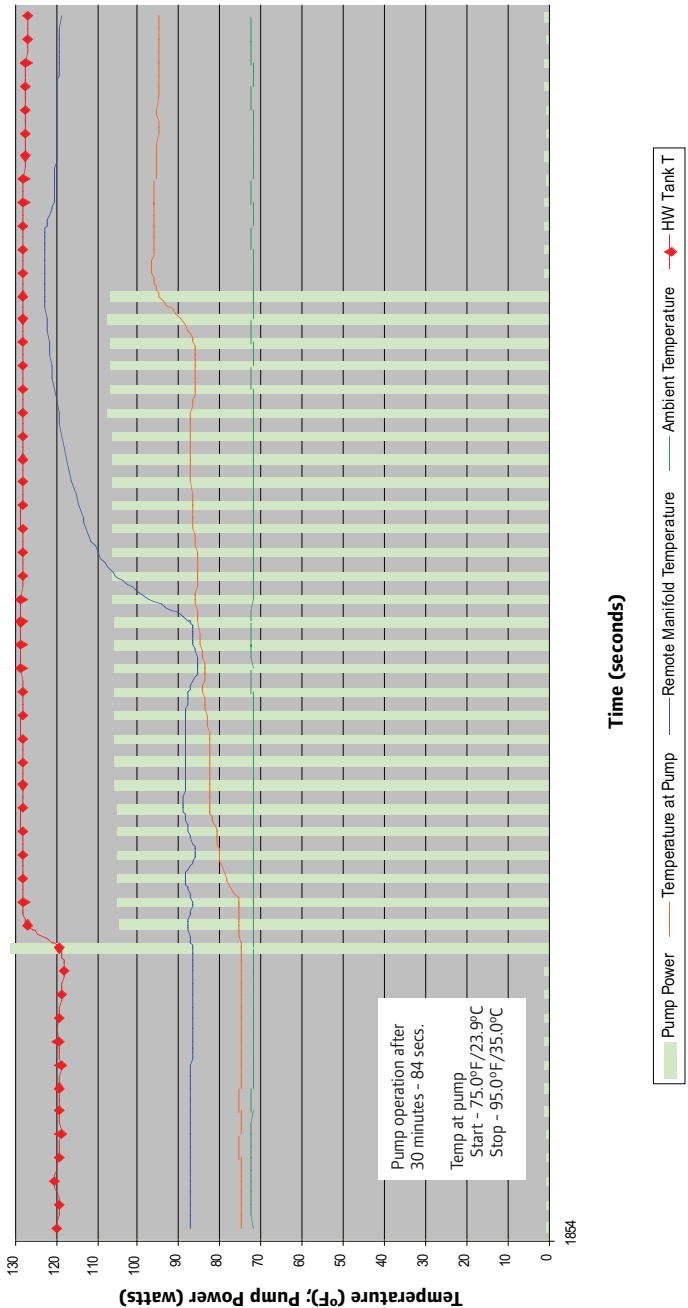

Figure 11-14: Snapshot of Circulation Pump Operation Following 30-minute Rest From the Previous Operation
**Figure 11-13** on **page 101** graphs the results, which are consistent between rest periods. **Figure 11-14** on **page 102** extracts one of the rest periods to show a more detailed view of the temperature change at the remote manifold and the circulation pump.